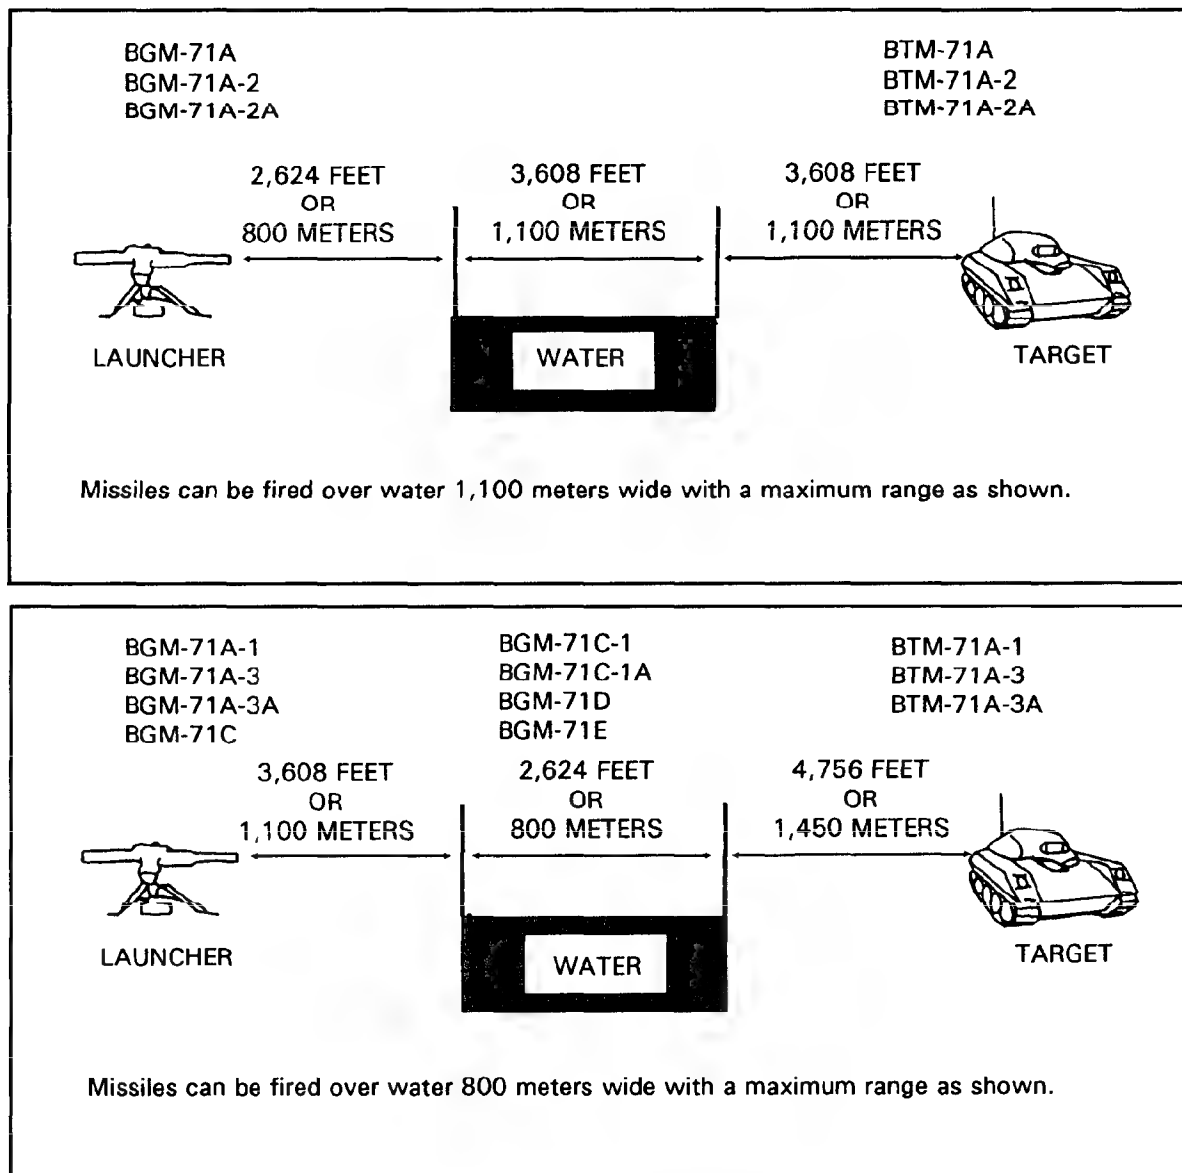

Figure 2-1. Maximum TOW missile range.
(1) The various types of TOWS listed may be fired over water to a maximum range as shown in Figure 2-1 (TOW launcher and target at water surface level).